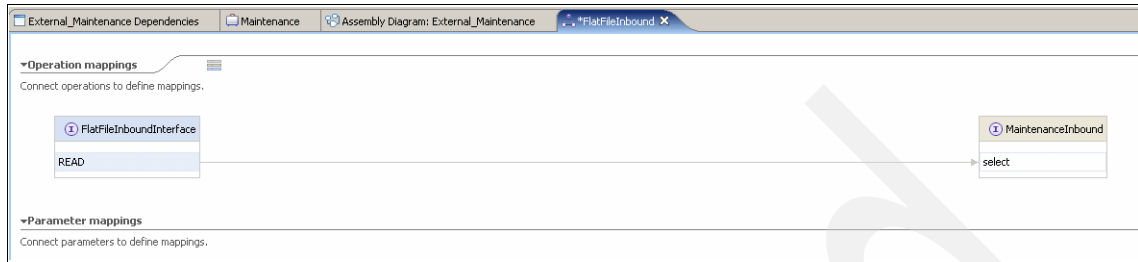

Figure 3-13 Create operation mapping
5. Create operation mapping between the source (READ operation) and target (select) interfaces (Figure 3-13).